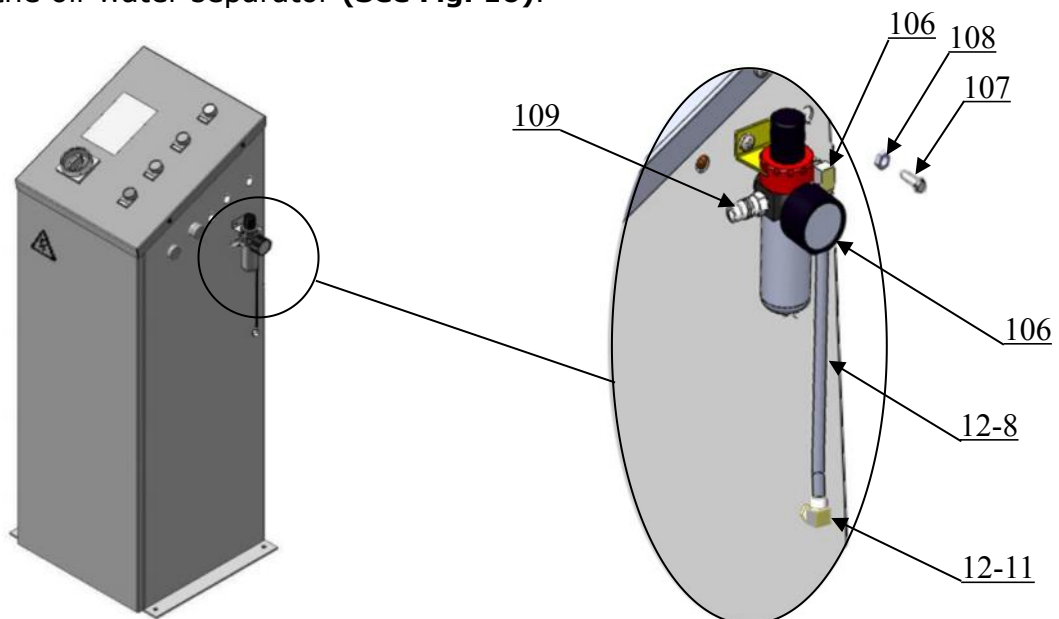

Fig. 16
- ⑥ Oil hose 1/4*216 9/16"
- ⑦ Oil hose 1/4*216 9/16"
- ⑧ Oil hose 1/4*216 9/16"
- ⑨ Oil hose 1/4*267 3/4"
- ⑩ Oil hose 1/4*210 5/8"
4. Install the oil-water separator **(See Fig. 16).**